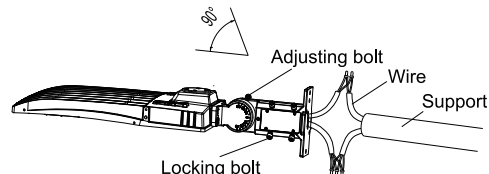

Figure 25
Step 2: Loosen the four bolts on A&D bracket, connect the wires correctly, and pull the wires into the poles.(Figure 25)
Step 3: Place the bracket into the pole and lock the four bolts. (Figure 25)
Notice: Adjustable angle is 0-90°(Figure 25)